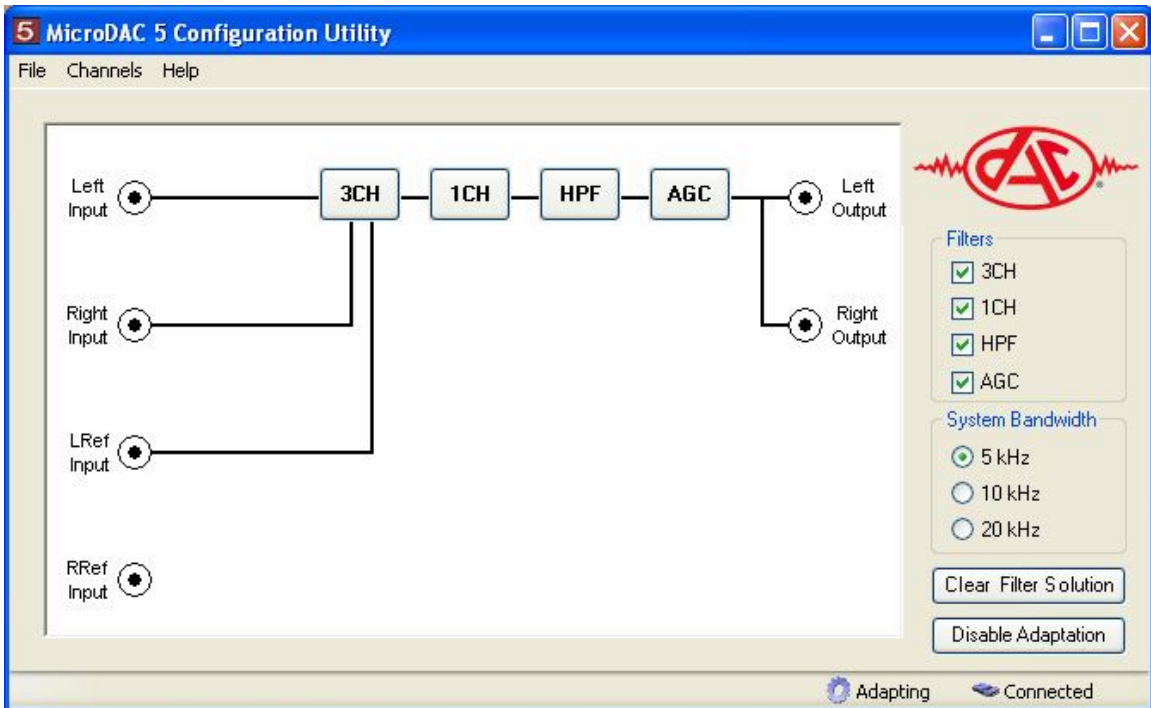

Figure 5-5: Mono 3CH with References on Right and LRef Inputs
- 3CH with references on Right and LRef Inputs (see Figure 5-5)